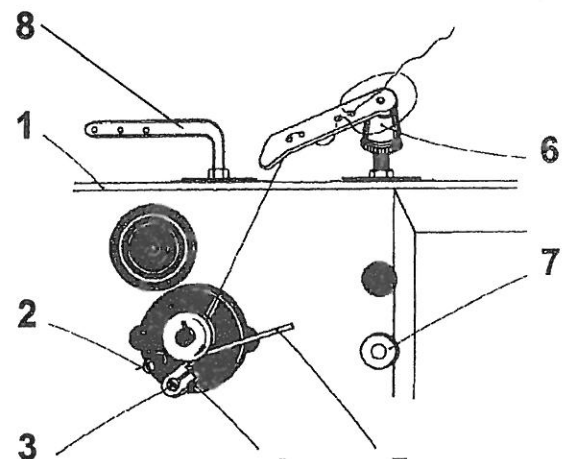
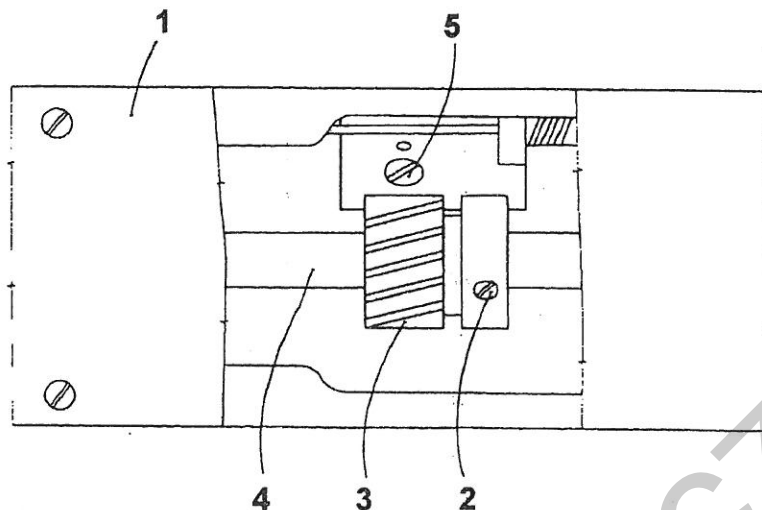

Fig. 6
Fig. 11
### 10. To wind the hook bobbin (Fig. 6)
**18. To adjust the needle bar lateral movement (Fig. 11)**
**20. To adjust the tooth play of the zigzag transmission mechanism (Fig. 6, 11; Tab. 1, 10)**
The tooth play of the zigzag stitch transmission mechanism is actuated by the eccentric pin (6). To adjust the tooth play, first screw out the four attachment screws (2, Table 1), remove the upper cover (1, Fig. 6), and loosen the screw (5, Fig 11) located in the lug of the machine arm. By turning then the eccentric pin (6) adjust the tooth play of the zigzag transmission mechanism, i. e., between the complete cam (9, Table 10) and the gear wheel (3, Fig. 11) mounted on the upper shaft (4, Fig. 11), then lock the adjusted position by throughly tightening the screw (5, Fig. 11).